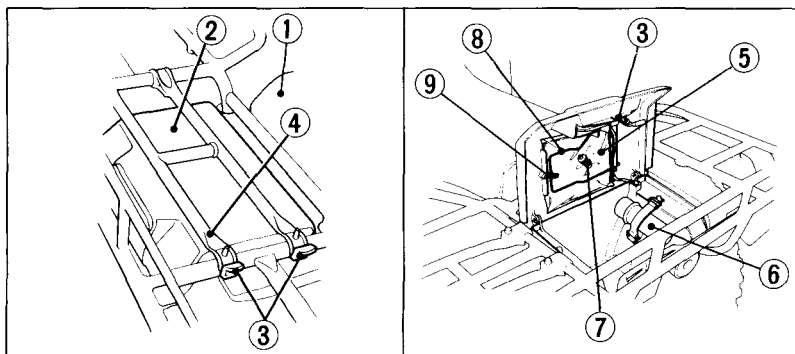

Fig. 2-23
The storage compartment (Fig. 2-23) is behind the seat. To open the compartment, unhook the rubber straps (3) and lift the hinged section of the rear rack (4). The Owner's Manual (5), tool kit (6), and air pressure gauge (7) should be stored in the storage compartment. To secure the Owner's manual in the compartment, use the manual holder (8) and hook (9).